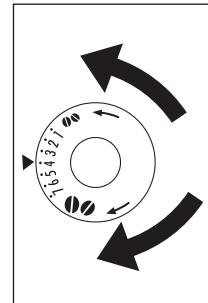

Fig. 40
- For slower delivery and creamier coffee, turn one click anticlockwise (finer pre-ground coffee). For faster delivery (not a drop at a time), turn one click clockwise (coarser pre-ground coffee) (Fig. 40).